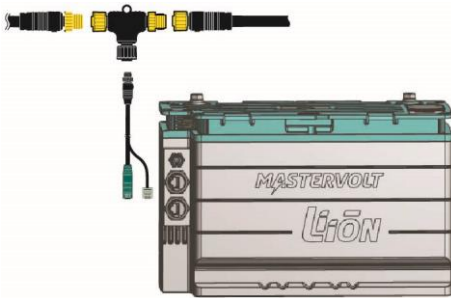

Figure 6: CZone drop cable
- CZone: connect the drop cable. On the battery side, plug the connectors into either of the communication ports. See Figure 6 on page 12.